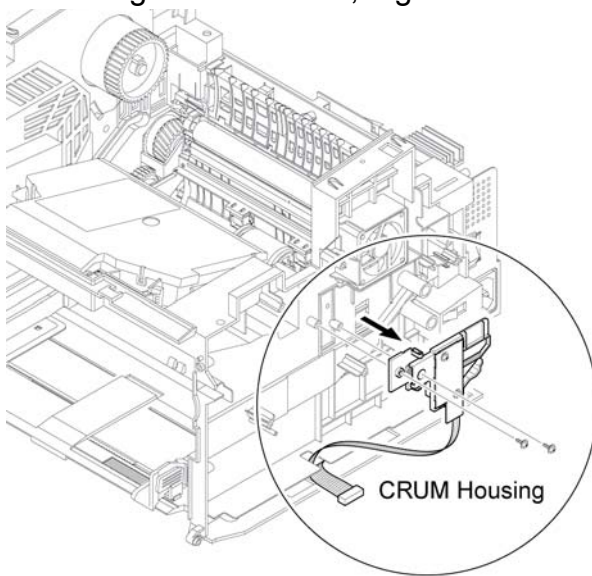

Figure 1
4. Remove 2 screws securing the CRUM housing and remove it, Figure 1.